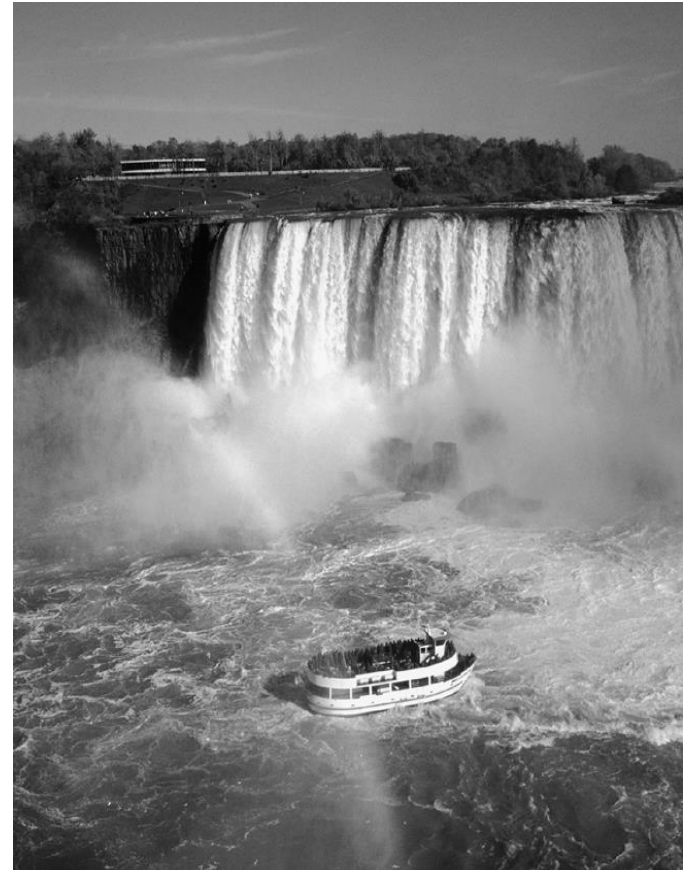

FIGURE 1–1 Fluid mechanics deals with liquids and gases in motion or at rest. © Vol. 16/Photo Disc.
- The branch of mechanics that deals with bodies at rest is called **statics**, while the branch that deals with bodies in motion is called **dynamics**. The subcategory **fluid mechanics** is defined as the science that deals with the behavior of fluids at rest (*fluid statics*) or in motion (*fluid dynamics*), and the interaction of fluids with solids or other fluids at the boundaries. Fluid mechanics is also referred to as **fluid dynamics** by considering fluids at rest as a special case of motion with zero velocity (Fig. 1–1).